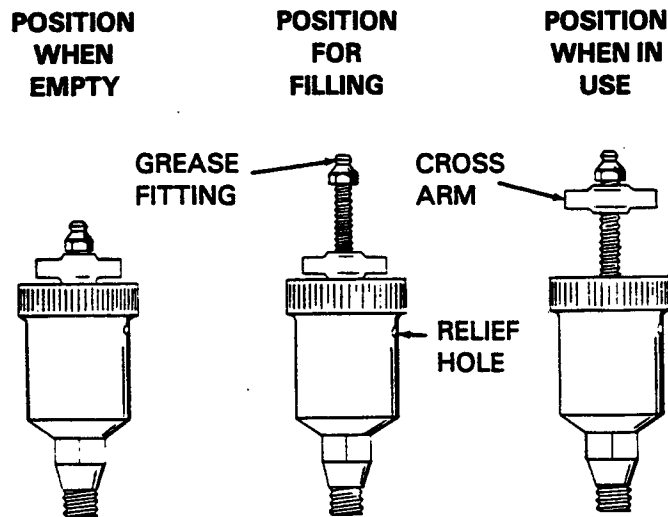

Figure 4. Automatic Lubricating Grease Cup
Before removing the seal assembly, turn the cross arm on the seal grease cup (59) clockwise until it rests against the cover (see figure 4). This will prevent the grease in the cup from escaping after the seal is removed.
Before starting the pump, fill the grease cup through the grease fitting with a good grade of No. 2 pressure gun grease until grease escapes from the relief hole. Turn the grease cup arm counterclockwise until it is at the top of the stem; this will release the spring to apply grease to the seal (see figure 4).